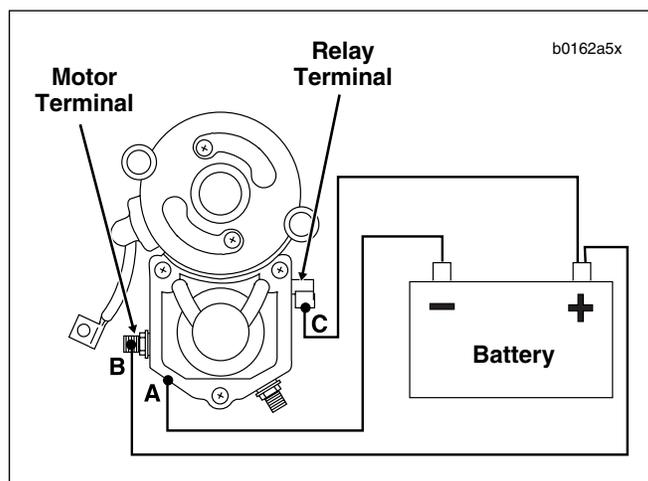

Figure 1-6. Test 2: Hold-In Test
- See Figure 1-6. With test leads still connected in the manner specified in the previous SOLENOID PULL-IN TEST, disconnect solenoid motor terminal/battery negative test lead (B) at negative battery post only; reconnect loose end of this test lead to positive battery post instead.